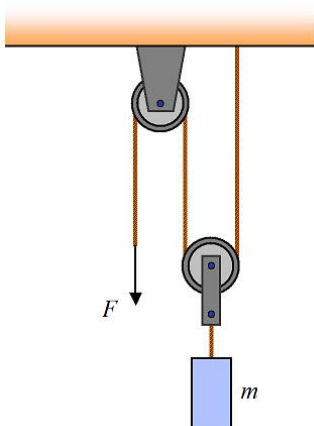

Figure 14: Pulley Setup
c. Determine the effort force F in Newtons, if the mass m in Figure 14 is 4kg. Show all workings.